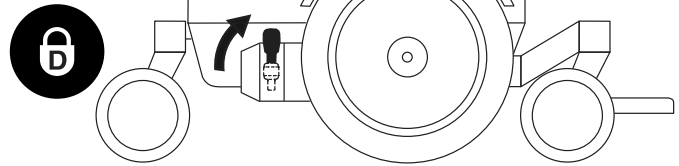

Figure 2. Manual Freewheel Lever Operation
1. Push down both manual freewheel levers for freewheel mode (drive motor disengaged). See figure 2.
2. Pull up both manual freewheel levers for drive mode (drive motor engaged). See figure 2.